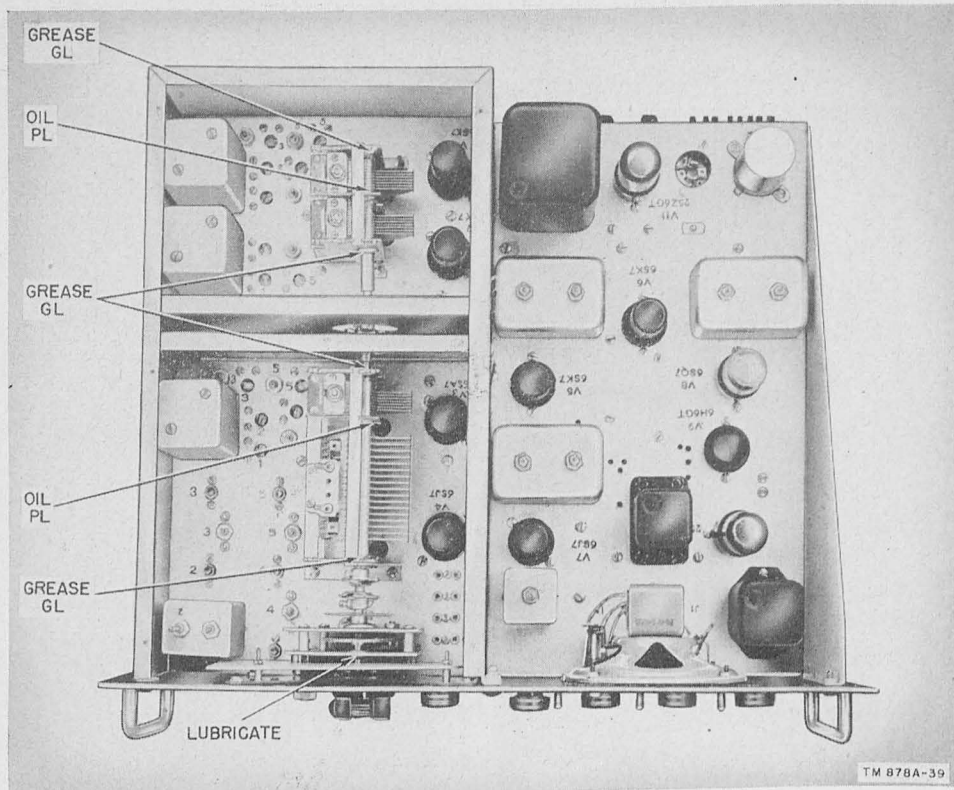
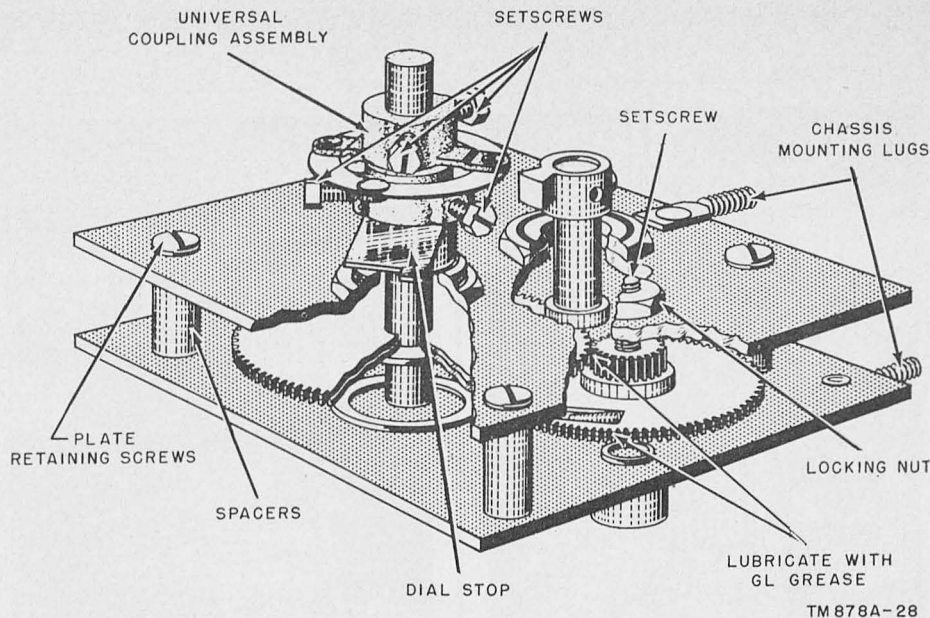

Figure 12. Lubrication of shafts, top view.
Figure 13. Radio Receiver R-96A/SR, lubrication of dial drive.
a. The location of the points requiring lubrication and the type of lubricant to be used are shown in figures 12, 13, and 14. Lubrication is not required at any point not included in these illustrations. The recommended lubricants are suitable for all temperatures at which the receiver normally is operated.
c. When lubricants are to be applied, use solvent (SD) to clean thoroughly the point to be lubricated and all other parts affected; dry with a lint-free cloth.
e. After the lubricant has been applied, rotate each affected control shaft (figs. 12 and 14) through at least two complete rotations to distribute the lubricant evenly.
It is necessary to remove the chassis and front panel from the dust cover in order to lubricate the dial drive mechanism. The dial drive is located on the top of the r-f chassis. Clean the dial drive thoroughly with solvent (SD) before attempting relubrication. For location of the dial drive, see figure 12. After the dial drive gears have been thoroughly cleaned (fig. 13), lubricate them with